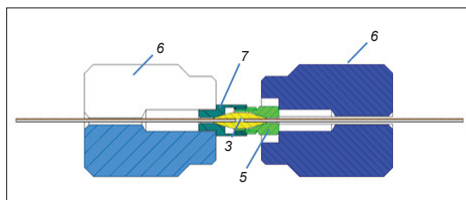

Figure 4. Section view of the SilTite™ μ -Union connection.
6. Insert the capillary into the double taper ferrule and slide the female end fitting (7) into position making sure the capillary seats inside the ferrule – there is a stop designed within the ferrule. Gently tighten the female end fitting with your fingers until you feel resistance. Locate both of the FingerTite μ -connector male/female end fitting tools (6) and slide them over the capillary via the slot cut into the tool. Tighten the fitting to swage the ferrule into the female end fitting - do not over tighten, finger force is all that is necessary to swage the ferrule onto the capillary (see Fig. 4).